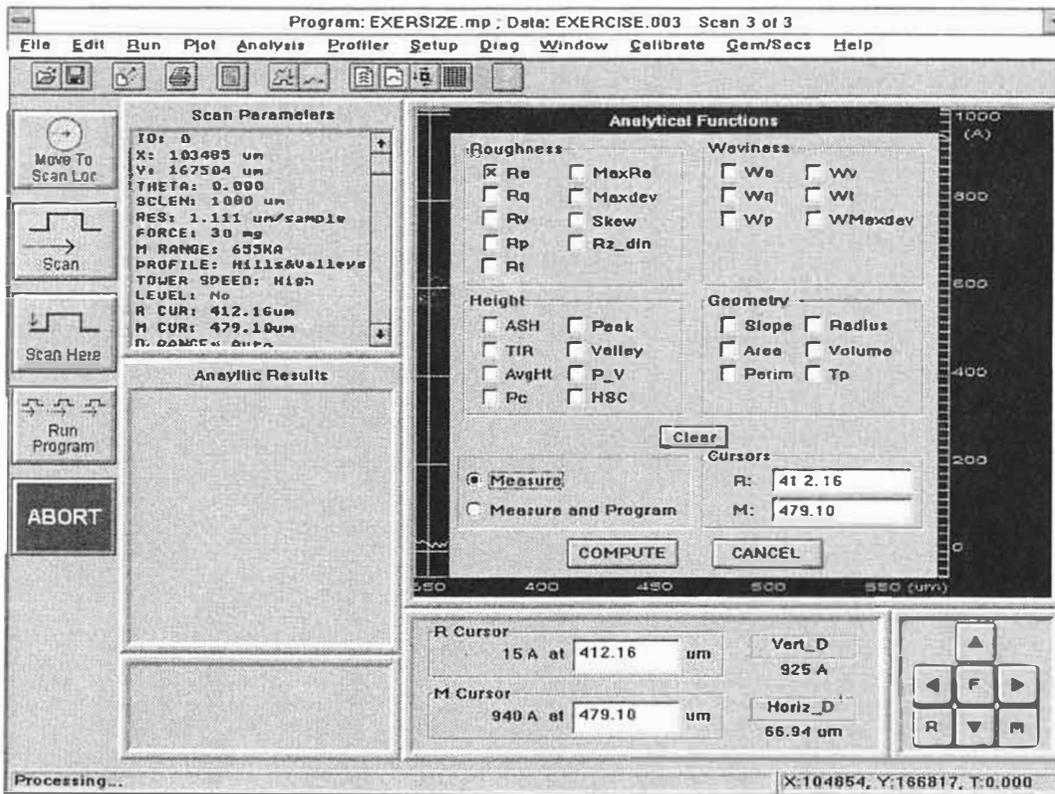

Figure 6-2. Roughness Functions Window
This exercise will demonstrate how to perform an average roughness measurement at the conclusion of a scan. For the purpose of this exercise, the optically flat glass of the calibration standard provided with the system can be used. The calibration standard should be positioned so that a 2 mm scan will traverse across the glass portion of the standard without encountering a step (see Figure 6-2).
3. With the stage positioned as shown in Figure 6-2, click-on "RUN". From the main menu bar and click-on "Run ScRt Here" from the menu. The current Scan Routine will be run.